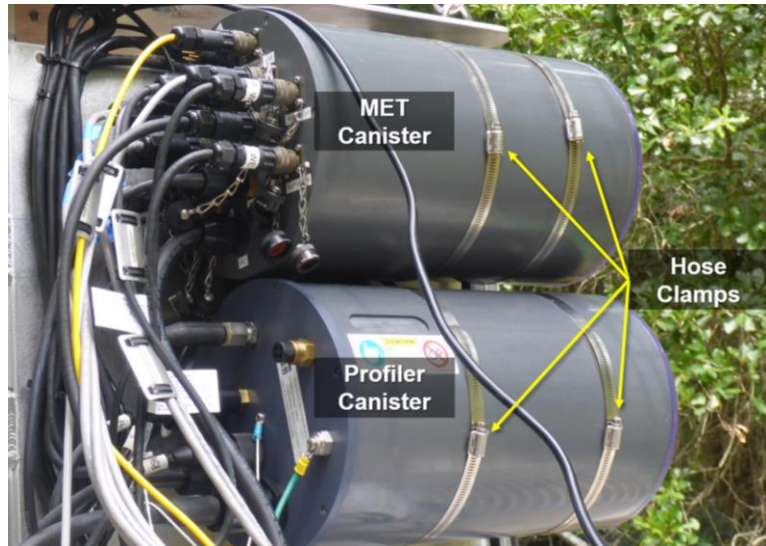

Figure 85. PVC Canister Enclosures for MET and Winch or Pump Profiler
4. Each canister secures to the T-Frame via two large clamps. Figure 85 displays the location of each canister and their hose clamps.